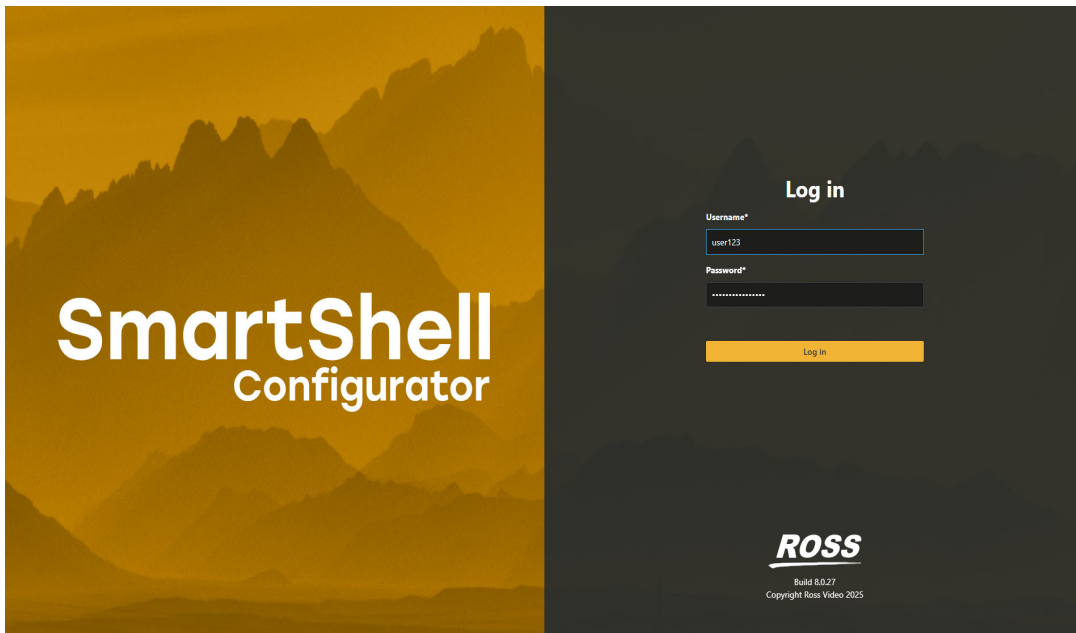

Figure 1 - SmartShell Configurator Login Page
2. On the Login page (Figure 1), enter your username and password.